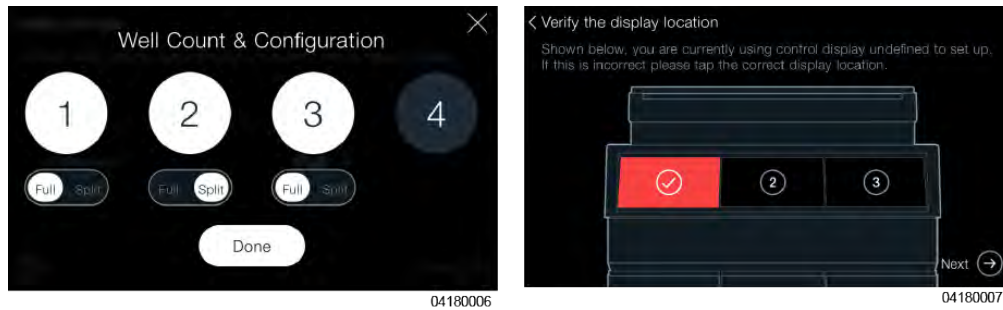

Figure 3-3
- 6) When selecting more than one vat, configure the quantity and specify whether each vat is full or split, see Figure 3-3, page 13.
- 7) Tap on the display location from the control fryer setup that is being entered, see Figure 3-3, page 13.